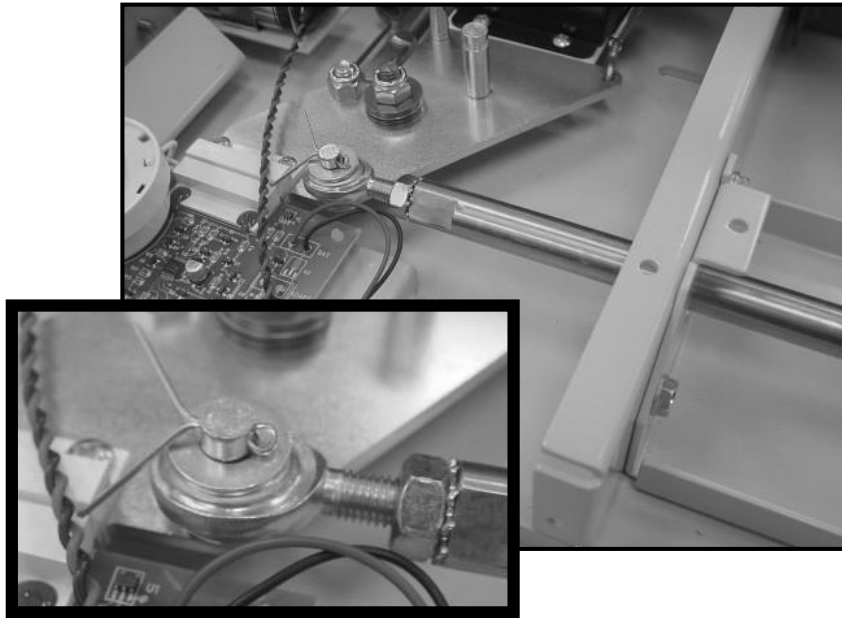

FIGURE A.3
- A-3.** Remove the Lock Bolt Rod and reinstall it through the opening on the opposite side. Secure the lock bolt rod to the bottom post on the Pivot Plate using the Washers and Cotter Pin (See Figure A.3).